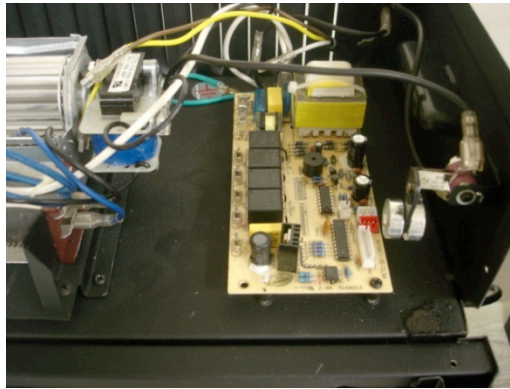

Figure 4, new PCB installed
- 5) Refer to **Figure 4** for final mechanical installation. You are now ready to wire the new PCB.